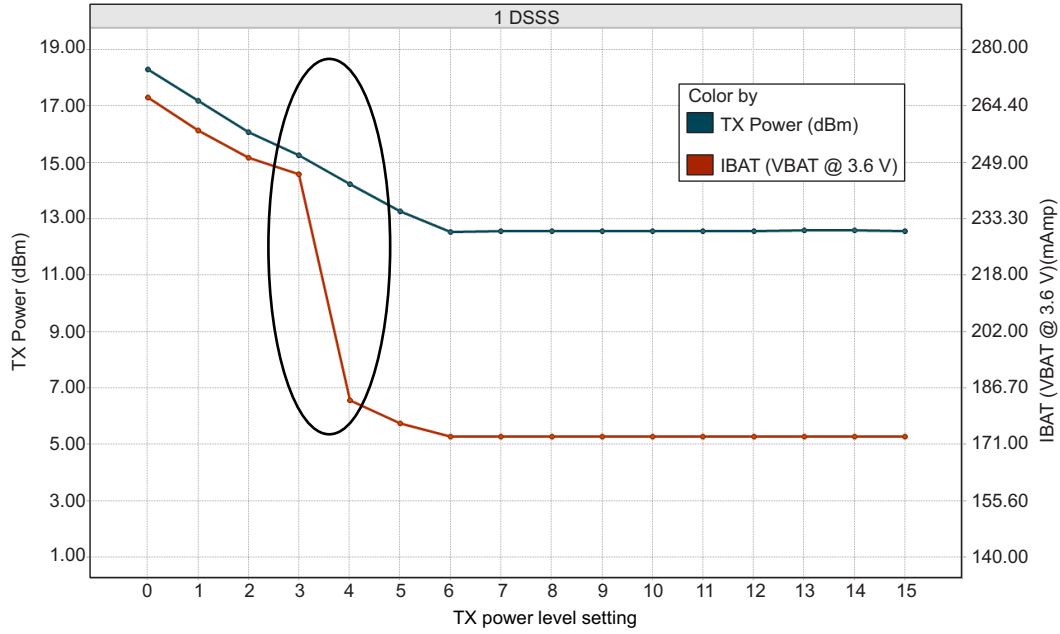
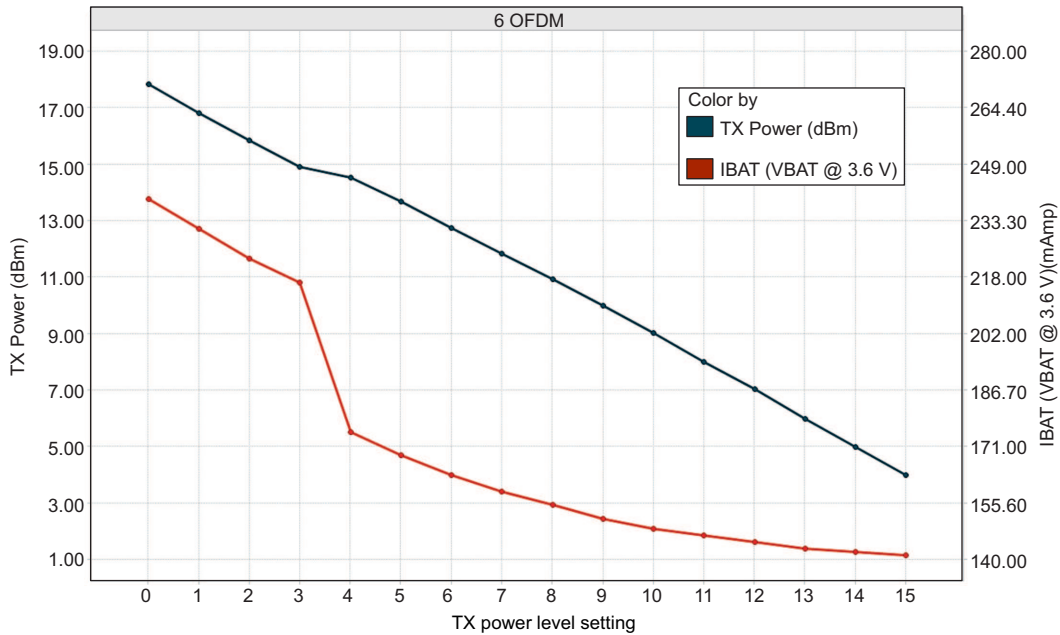
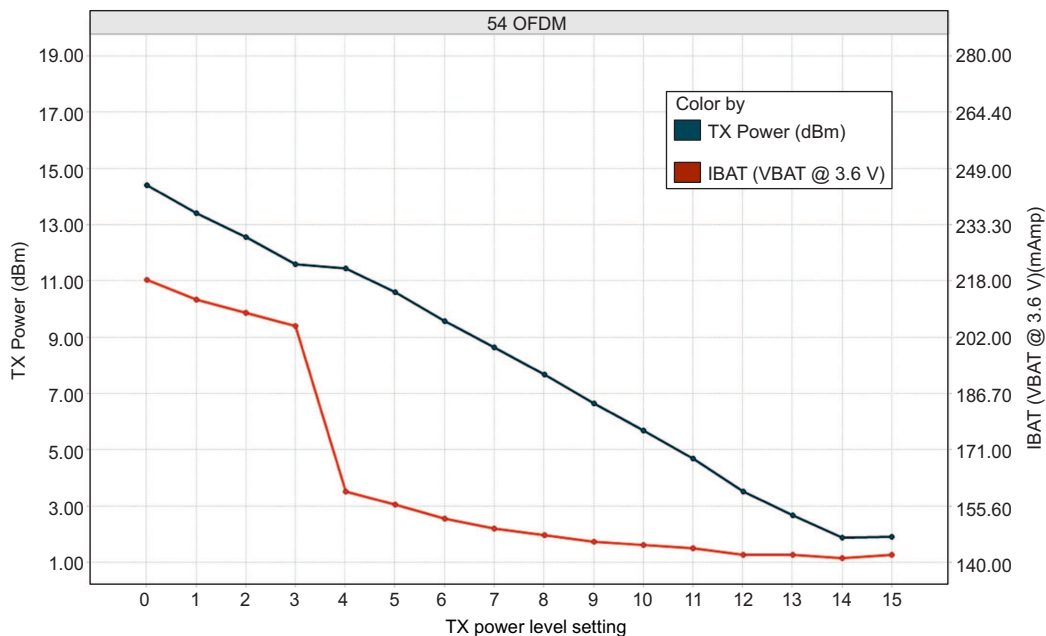

Figure 5-1. TX Power and IBAT vs TX Power Level Settings (1 DSSS)
Figure 5-2. TX Power and IBAT vs TX Power Level Settings (6 OFDM)
Figure 5-3. TX Power and IBAT vs TX Power Level Settings (54 OFDM)
(1) TX power level = 0 implies maximum power (see Figure 5-1, Figure 5-2, and Figure 5-3). TX power level = 4 implies output power backed off approximately 4 dB.
(2) The CC3235x system is a constant power-source system. The active current numbers scale based on the V_{BAT} voltage supplied.
(3) Typical numbers assume a VSWR of 1.5:1.
(4) DTIM = 1
(5) LPDS current does not include the external serial flash. The LPDS number of reported is with retention of 256KB of MCU SRAM. The CC3235x device can be configured to retain 0KB, 64KB, 128KB, 192KB, or 256KB of SRAM in LPDS. Each 64-KB block of MCU retained SRAM increases LPDS current by 4 μA .
(6) The complete calibration can take up to 17 mJ of energy from the battery over a period of 24 ms. Calibration is performed sparingly, typically when coming out of HIBERNATE and only if temperature has changed by more than 20°C. The calibration event can be controlled by a configuration file in the serial flash.
Figure 5-1, Figure 5-2, and Figure 5-3 show TX power and IBAT versus TX power level settings for the CC3235S device at modulations of 1 DSSS, 6 OFDM, and 54 OFDM, respectively. For the CC3235SF device, the IBAT current has an increase of approximately 10 mA to 15 mA depending on the transmitted rate. The TX power level will remain the same.
In Figure 5-1, the area enclosed in the circle represents a significant reduction in current during transition from TX power level 3 to level 4. In the case of lower range requirements (14-dBm output power), TI recommends using TX power level 4 to reduce the current.